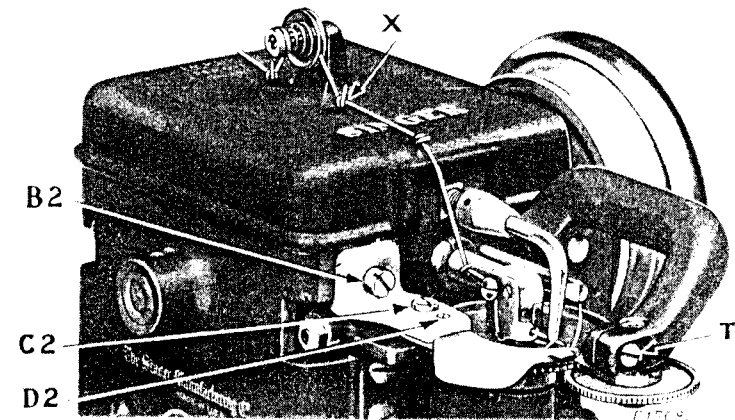

Fig. 9. Adjustments on Machine 176-24
NOTE - Machines 176-23 and 176-24 are threaded as described above except that the thread is passed from the tension discs (3) through the guide (X), as shown in Fig. 9, page 9.
The work guide may be moved sidewise, toward or away from the needle, after loosening the large screw (B2, Fig. 9)
ON MACHINE 176-24, the idler disc may be slid up or down after loosening the clamp screw (T, Fig. 9). See that the needle guard groove is in line with the needle before tightening the clamp screw.